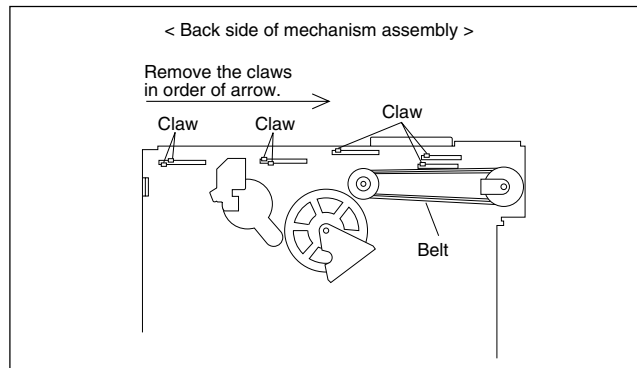

Fig.2-2-12a
- Before removing the change lever assembly, it is required to remove the belt (Fig. 2-2-12a).